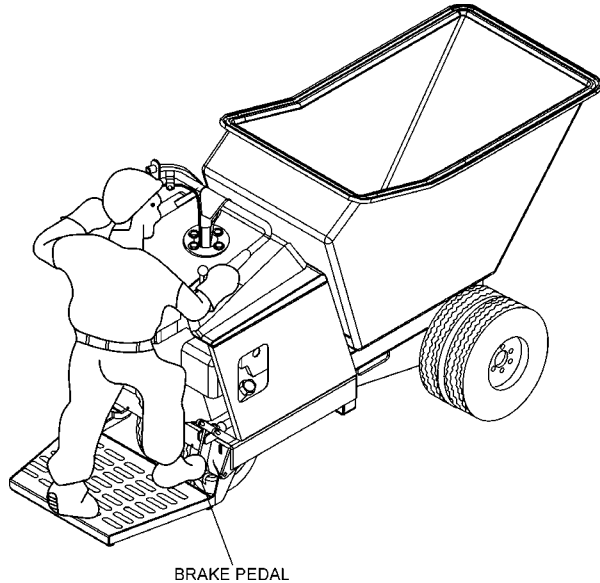

Figure 20. Brake Pedal
3. When using the buggy for the first time, test the brake. With the right foot, step up and place it on the brake pedal (Figure 20). Gradually apply pressure to the brake pedal until the buggy comes to rest.